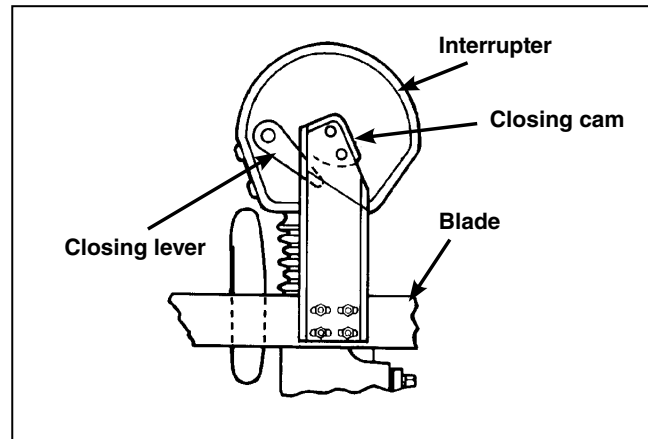

Figure 20. Blade assembly moving in closing direction.
- As the blade assembly moves in the closing direction, each blade-closing cam must make positive engagement with its respective interrupter-closing lever. See Figure 20.